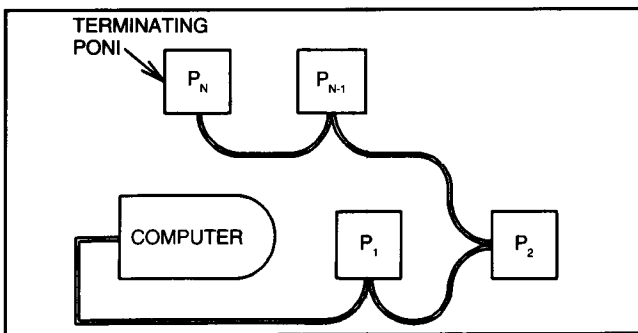

Fig. 5 Network Interwiring
**NOTE: In this case, polarity of the network is not important. (Fig. 5)**